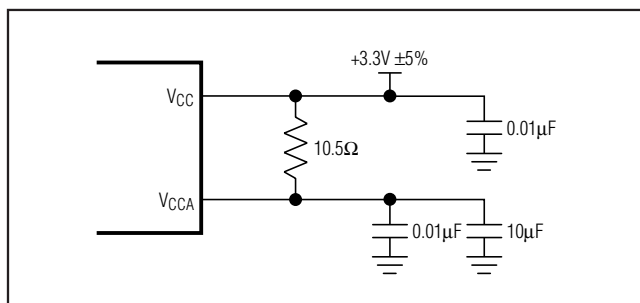

Figure 2. Analog Supply Filtering
**Note 1:** A series resistor of up to  $10.5\Omega$  is allowed between  $V_{CC}$  and  $V_{CCA}$  for filtering supply noise when system power-supply tolerance is  $V_{CC} = 3.3V \pm 5\%$ . See Figure 2.
**Note 6:** Measured with  $40mV_{P-P}$ , 100kHz sinusoidal signal on the supply with  $V_{CCA}$  connected as shown in Figure 2.
The MAX3622 is a mixed analog/digital IC. The PLL contains analog circuitry susceptible to random noise. In addition to excellent on-chip power-supply noise rejection, the MAX3622 provides a separate power-supply pin, VCCA, for the VCO circuitry. Figure 2 illustrates the recommended power-supply filter network for VCCA. The purpose of this design technique is to ensure clean input power supply to the VCO circuitry and to improve the overall immunity to power-supply noise. This network requires that the power supply is +3.3V ±5%. Decoupling capacitors should be used on all other supply pins for best performance.